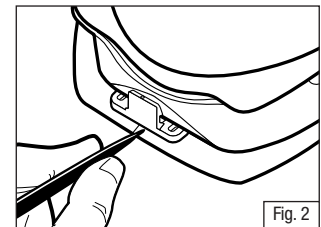

Fig. 2
3. Carefully trace a mark on the jaw surface along the back and rounded circular sides of the latch. (Fig. 2)